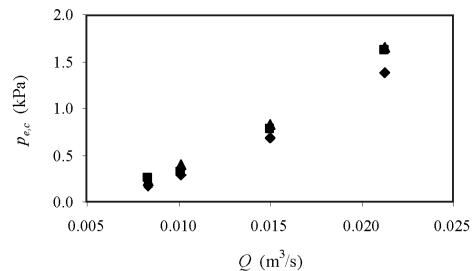
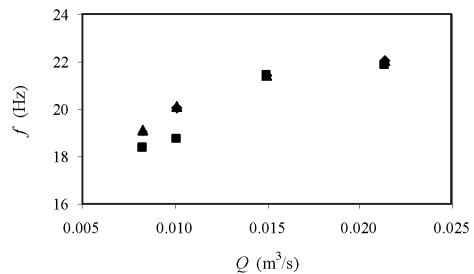

Figure 8.
Figure 9.
- The legends in Figure 8 (pg. 159) and Figure 9 (pg. 160) are seen to be given for ( $P_L$ ;  $S_{1,L}$ ;  $S_{2,L}$ ). However the correct form should be  $P_L, P_M, P_S$  in both Figure 8 and Figure 9. Furthermore, the letters (a) in both Figure 8 and Figure 9 are not necessary and should be omitted, since they are single figures. The correct form of Figures (8, 9) should appear as follows: